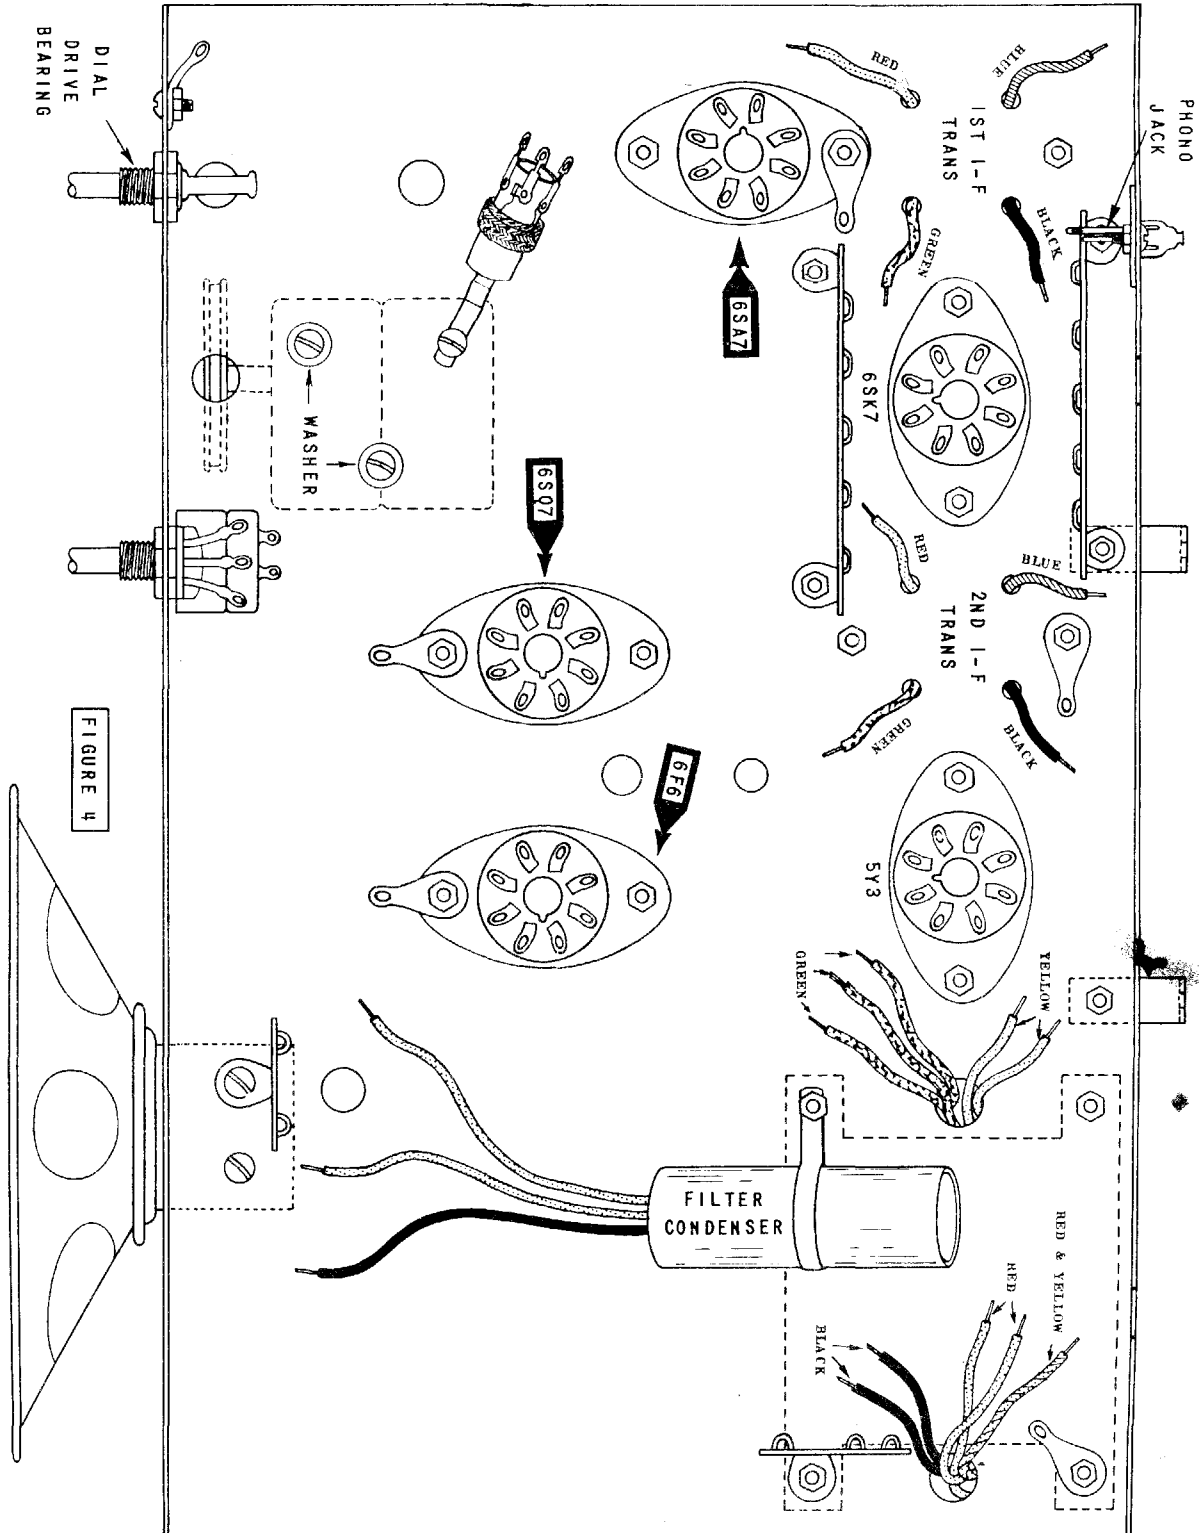

FIGURE 4
Mount the two i-f transformers as illustrated in Figure 4.
indicated in Figure 4. Note that a soldering lug should be placed on one of the mounting screws before tightening the nut and that one of the mounting screws is also used for mounting one side of the 6SA7 tube socket.
Mount the five tube sockets on the chassis as illustrated in Figure 4. Be sure that each key is pointed in the direction indicated. Mount the soldering lugs on the tube sockets as illustrated.
- Mount the power transformer as illustrated in Figure 4.
- Mount the dial drive bearing and the potentiometer in the holes as illustrated in Figure 4.
- Mount the two five-lug terminal strips as illustrated in Figure 4.
- Mount the phono jack as illustrated in Figure 4. Be sure that the circular bakelite portion of this jack is on the inside of the chassis.
Place a soldering lug on the back of one of these screws as illustrated in Figure 4. Make sure that the tuning condenser is rotated to its maximum counterclockwise position (plates fully meshed) and place the dial pointer on the end of the condenser shaft so that it is lined up directly with the dot alongside number 55. This indicates 550 KHz on the dial.